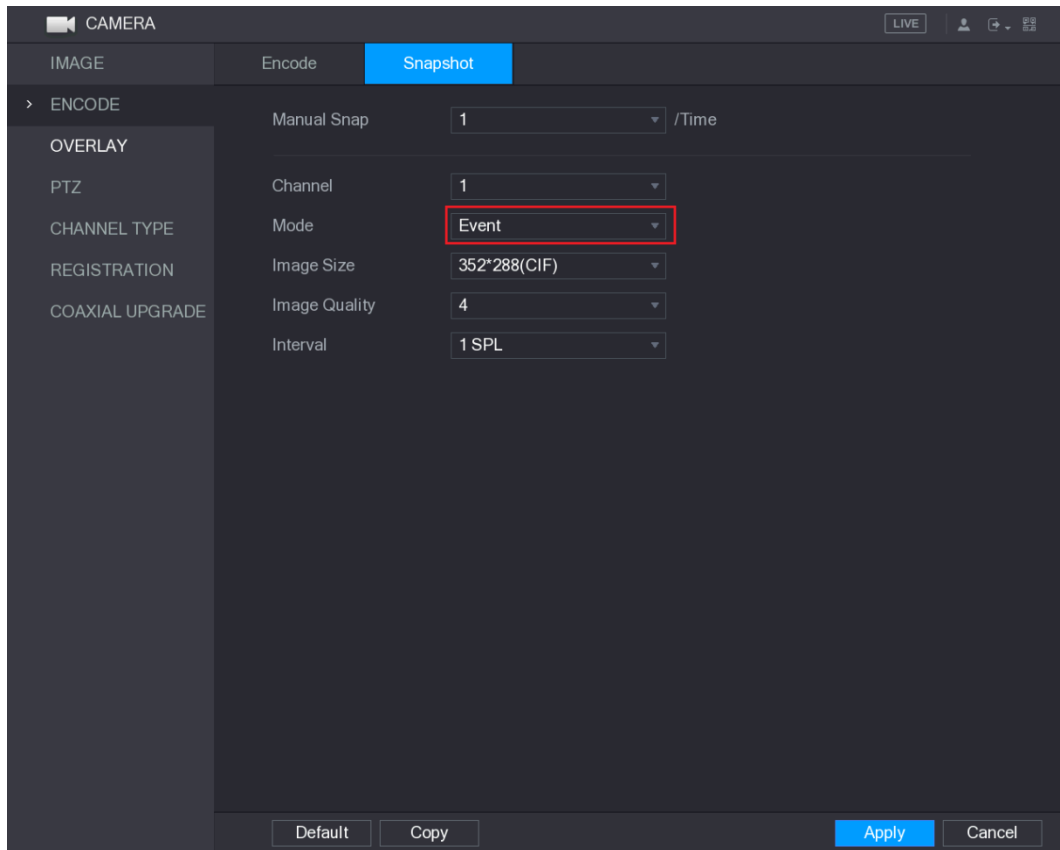

Figure 5-91
**Step 2** In the **Mode** list, select **Event**, and then configure other parameters. See Figure 5-91.